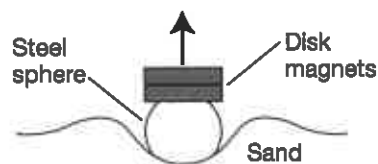

Figure 3.
13. Repeat steps 3–11 with the 1.9-cm steel sphere. *Note:* Use the two disk magnets to remove the steel sphere from the sand without disturbing the crater (see Figure 3).